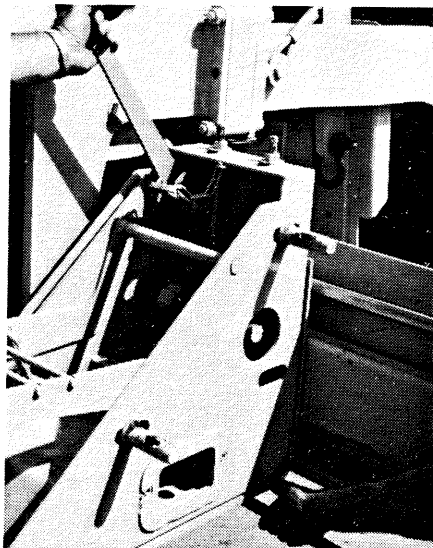

Figure 20
(9) Using special wrench, turn top alignment eccentric to raise or lower the front of the extension screed bottom so it matches the height of the main screed bottom. **(Figure 20)** Use a straightedge to make sure the bottoms are flush.